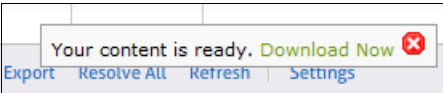

Figure 4-65 Download the XML file
2. Click **Download Now**, as shown in Figure 4-65.